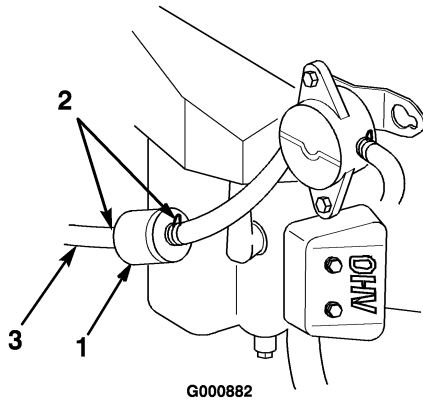

Figure 28
4. Squeeze the ends of the hose clamps together and slide them away from the filter (Figure 28).
6. Install a new filter and move the hose clamps close to the filter (Figure 28).
5. Loosen the hose clamp at the fuel filter and slide it up the fuel line away from the fuel filter (Figure 28).
6. Pull the fuel line off of the fuel filter (Figure 28).